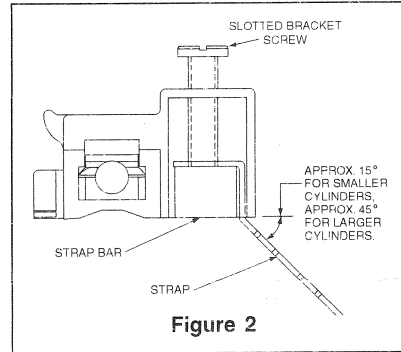

Figure 2
1. Unthread slotted screw in bracket until strap bar is flush at base of bracket as shown in **Figure 2**. Then, bend strap as shown (about 15° for small cylinders, 45° for larger cylinders).